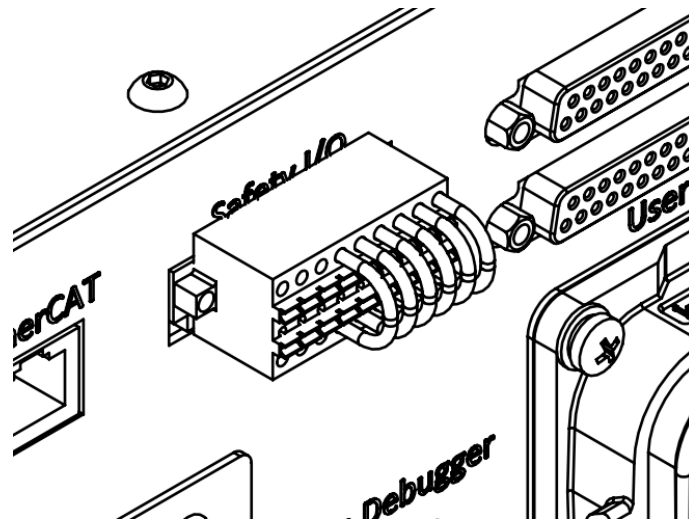

Figure 3-8 Safety short circuit module
- Step4. Confirm that the safety short-circuit module of the control cabinet is connected normally (Safety I/O in Figure 3-8 is in a normal connection state).